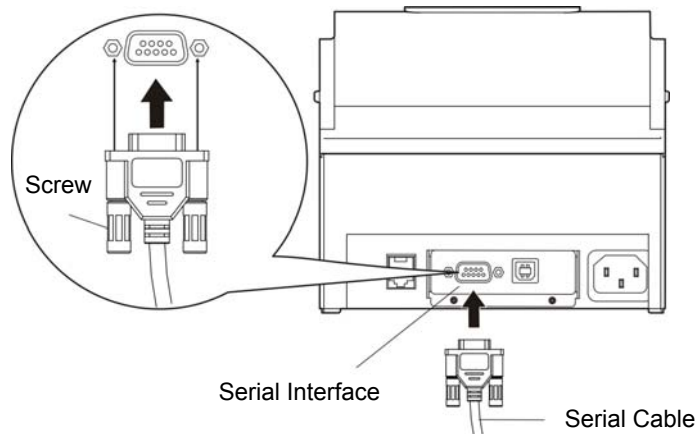

Figure 2-5 Connecting the serial cable
1. Make sure that the computer and the printer are both turned off, connect the serial cable to the serial interface of the printer and tighten the screws on both sides to make the cable fixed. (As shown in Figure 2-5)